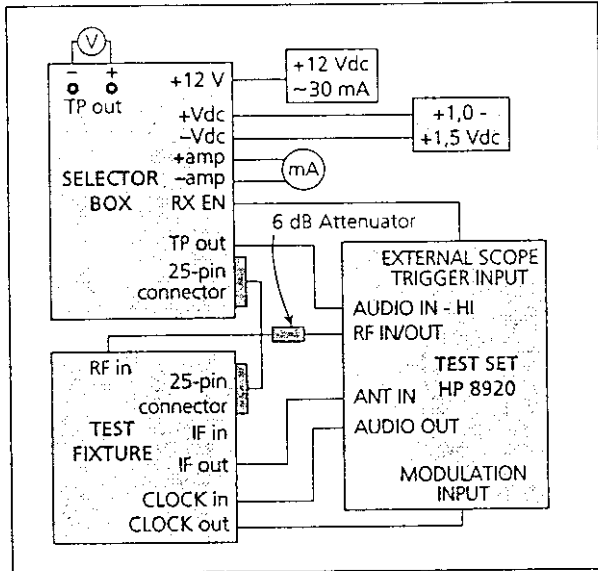

Figure 1. Equipment setup for preferred procedure using RF Communication Test Set.
1. Connect the test equipment as shown in figure 1.